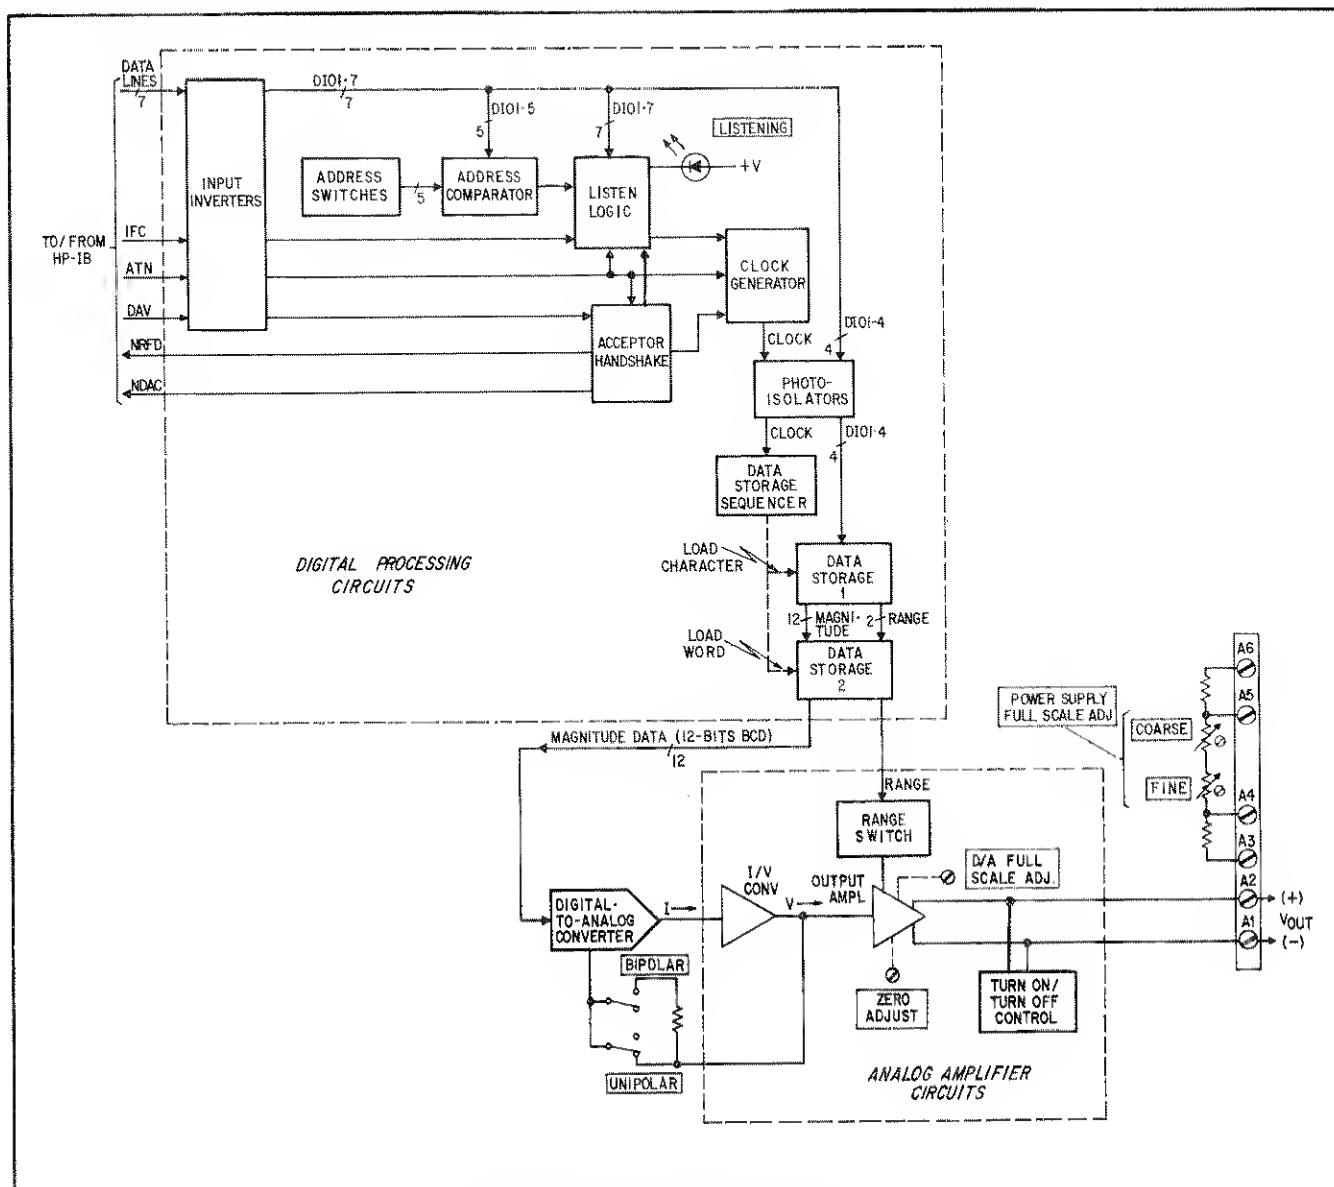

Figure 4-1. 59501A Block Diagram
4.2 The 59501A provides a unipolar or bipolar output voltage in response to digital data received on the HP-IB. As stated previously, the 59501A can be used (in conjunction with an HP-IB controller) as a power supply programmer or as a low level dc signal source. Figure 4-1 is a block diagram illustrating the major circuits within the 59501A. For simplification, the 59501A's bias voltage supplies and
power-on preset circuit are not shown on the block diagram. The 59501A's circuits are shown in their entirety on the main schematic (Figure 7-3 at the rear of the manual). The functional circuit designations are the same on both the block diagram and the schematic so that the two diagrams can be correlated. As shown in Figure 4-1, the major circuits of the 59501A consist of digital processing circuits, a digital-to-analog converter, and analog amplifier circuits.
4-6 When ATN is true and the 59501A's listen address is placed on data lines DI01-DI07, the 59501A is enabled to function as a "listener". As shown in Figure 4-1, the data lines are applied to the address comparator and to the listen logic. The address comparator decodes the 59501A's Listen address when the levels on lines DI01-DI05 match the address switch settings on the rear of the 59501A. In this case, the address switches are set to "&" (one of 31 possible address codes) which distinguishes the 59501A from the other devices connected to the bus. Thus, when the 59501A's listen address is decoded and ATN is true (command mode), the listen logic is set. For this condition, the LISTENING indicator is turned-on and the clock generator is enabled allowing the 59501A to process subsequent data words received on the bus. If the ATN line is true and an unlisten command "?" is received, the listen logic is reset. For this condition, the LISTENING indicator is turned off and the clock generator is disabled inhibiting the 59501A from processing data words. Note that the IFC signal also resets the listen logic. The IFC signal is used by the controller to terminate activity on the HP-IB.